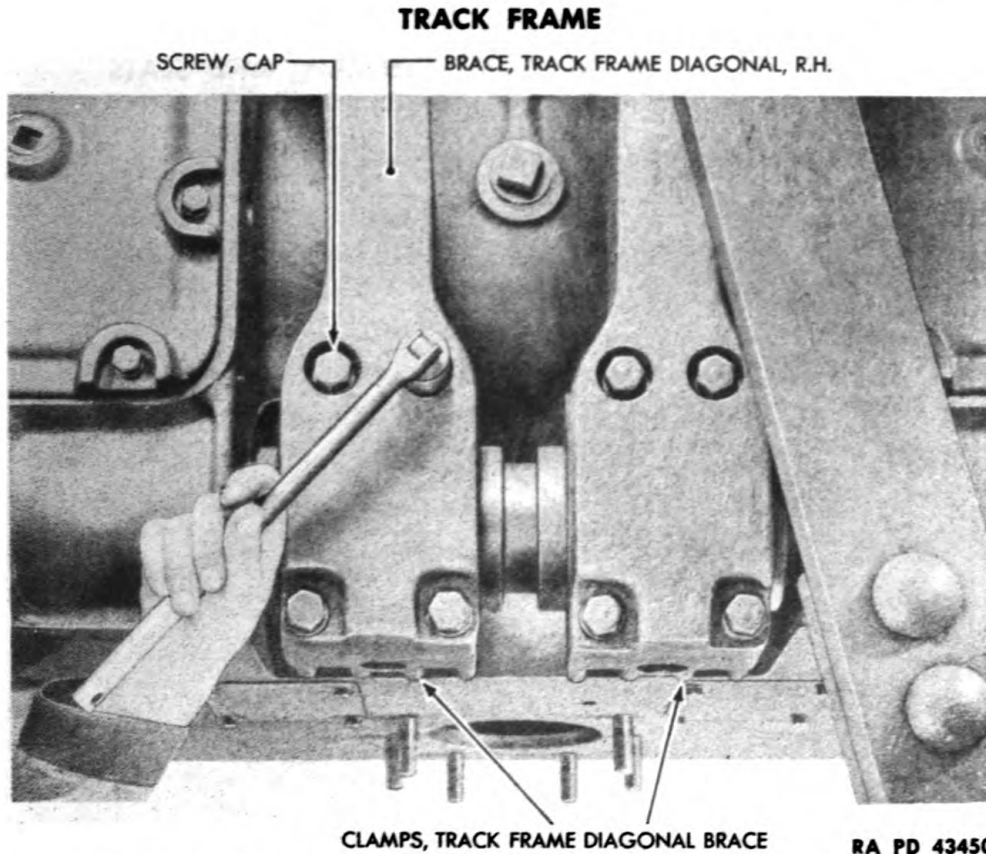

Figure 181 – Track Frame Diagonal Brace Clamp Removal
(3) REMOVE TRACK FRAME DIAGONAL BRACE CLAMP (fig. 181).